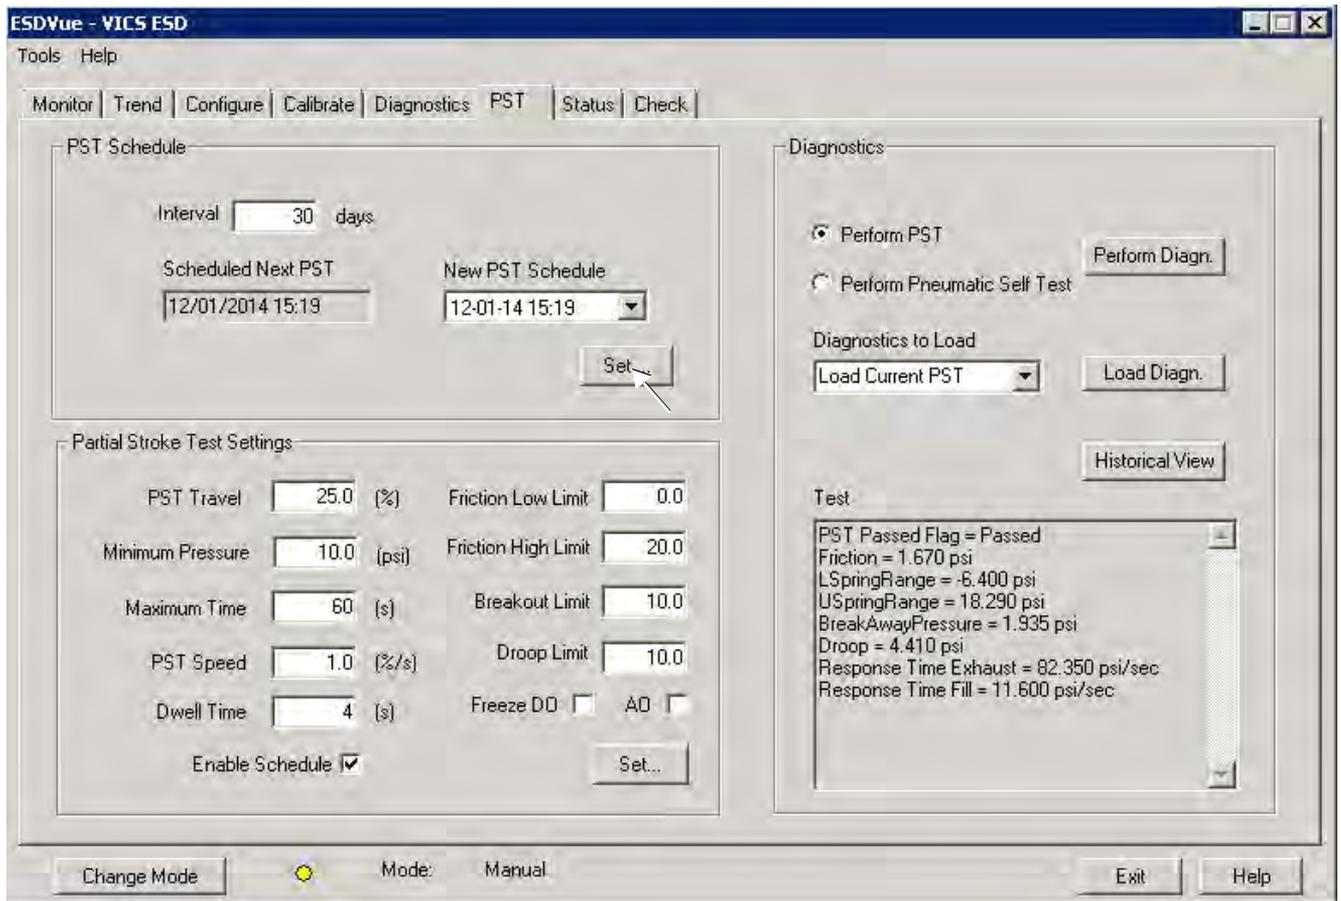

Figure 245 Saving Schedule Changes
2. Click **Set** to save the changes (Figure 245).